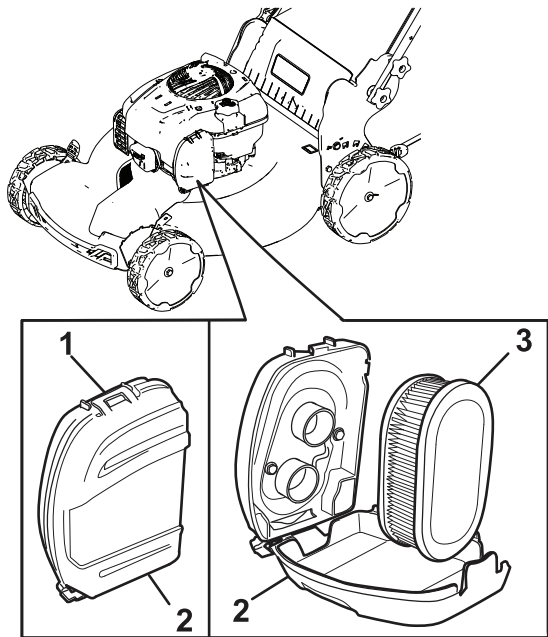

Figure 20
- 1. Unclip the top of the air-filter cover (Figure 20).
- 2. Remove the air filter (Figure 20).